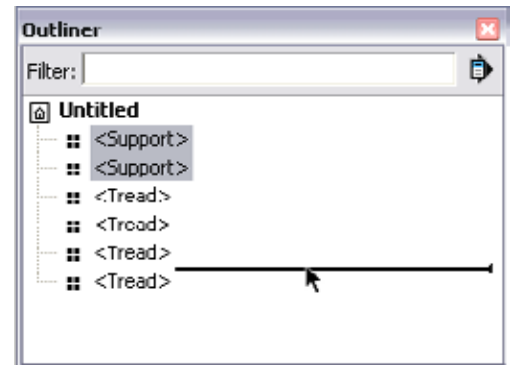

Figure 7-99
6. Remember which tread was highlighted in the Outliner. Then, within the Outliner, select both support components (press the Ctrl/Option key when you want to select multiple items) and drag them just below the tread that was highlighted (Figure 7-99).